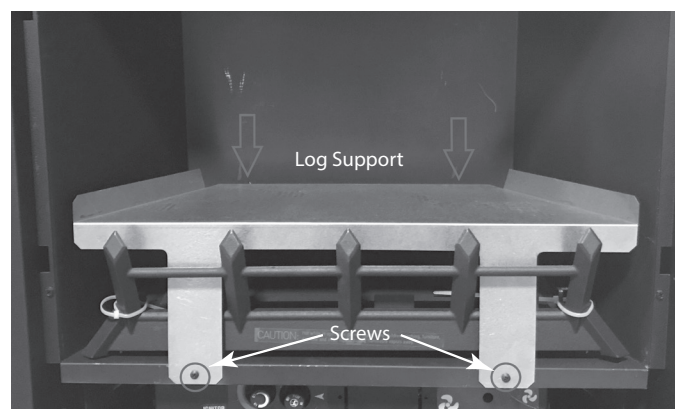

Figure 15a
4. Remove and discard logs support and screws. Figure 15a.